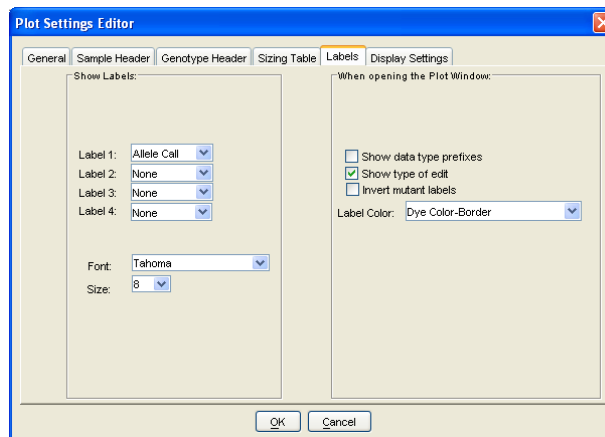

Figure 22. Plot Settings Editor: Labels. Note that these label settings are specific to the “Allelic Ladders” plot settings.
- 7.6 Figures 17 – 21 show the various tabs of the plot settings editor. Verify that the plot settings match those in the Figures. The only difference between the allelic ladder and samples plot settings is the allele label. For allelic ladders, only the allele call is used, as indicated in Figure 22.